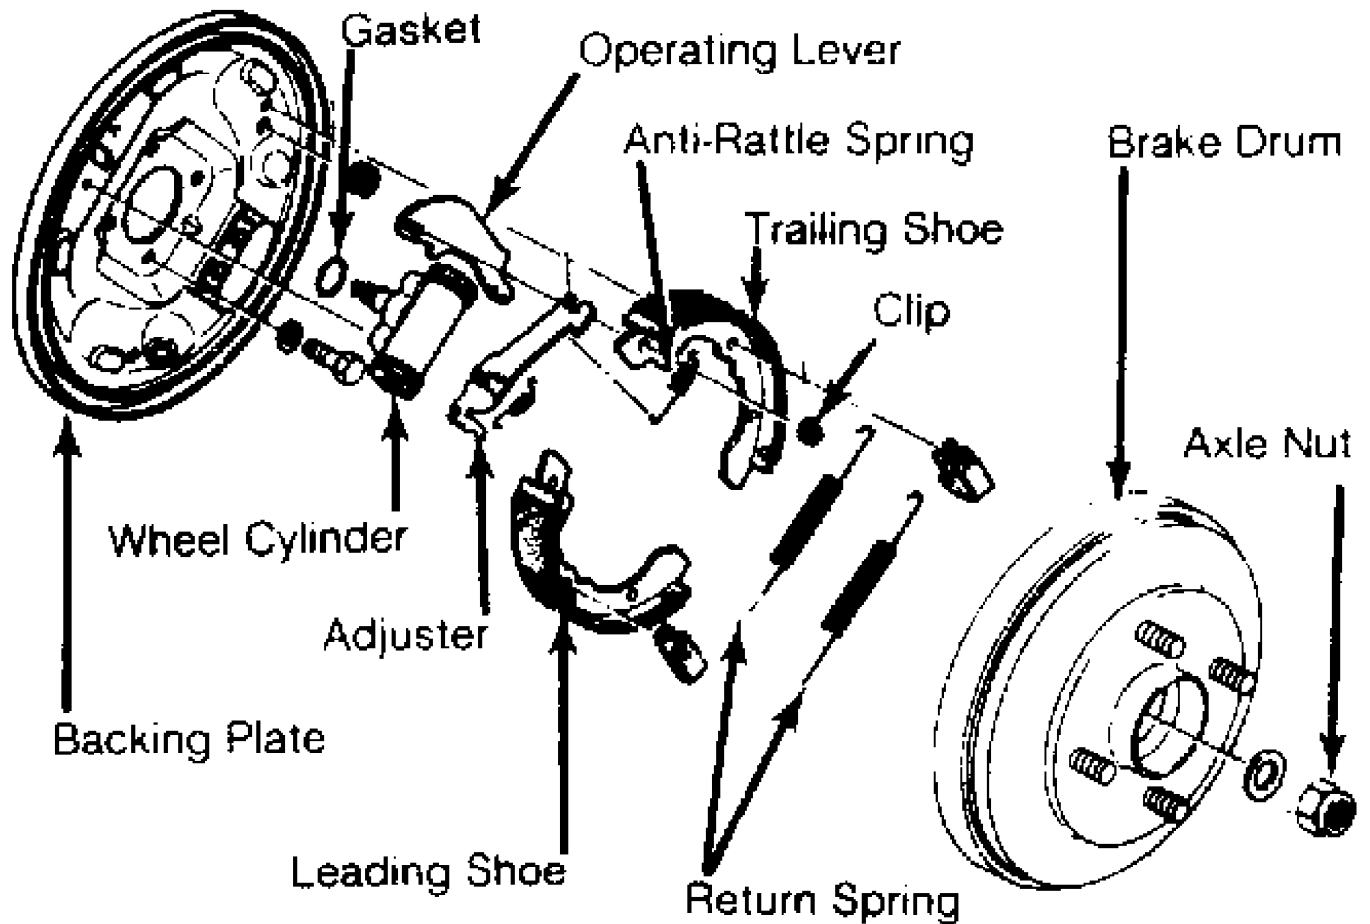

Fig. 18: View of Rear Drum Brake Assembly (Typical)
2) Remove return spring, anti-rattle spring, and leading shoe hold-down spring and pin. Remove leading shoe assembly. See Fig. 18. Minimum lining thickness is .04" (1 mm).